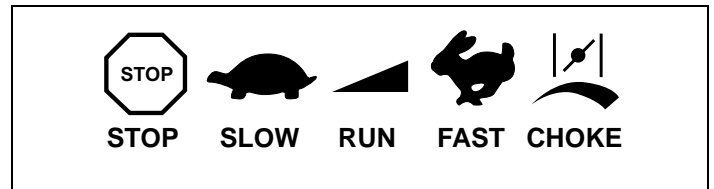

Figure 9. Typical Engine Symbols
2. Move independent speed control to “FAST” position and set independent choke control to “FULL CHOKE” position (see equipment manufacturer’s instructions). See Figures 9 thru 11 starting on page 6. Afterwards, continue reading instructions below.